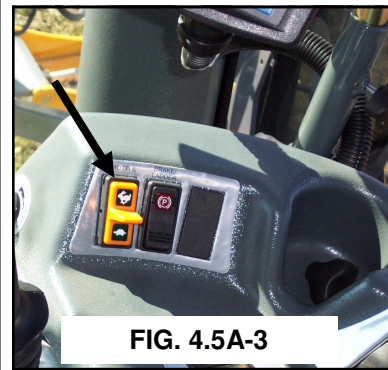

FIG. 4.5A-3
**THROTTLE SWITCH**- The throttle switch (fig. 4.5A-3) is used to control engine RPM. There are 2 settings that are controlled by the switch, high and low, with a RPM range of 800 to 2500.